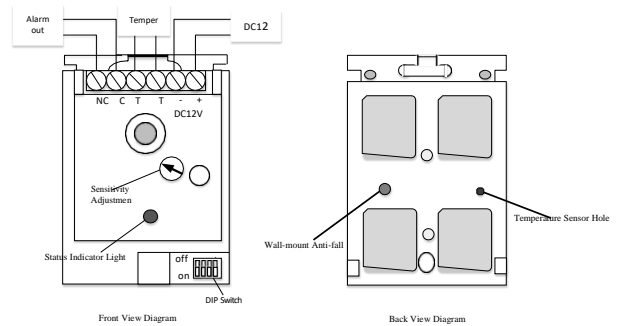

Figure 1
4.4.4 Temperature Alarm Test: When continuously applying heat to the temperature sensing hole (as shown in Figure 1) using a high-power heat gun or other heat-generating equipment, the detector will trigger an alarm. During a temperature rise alarm, the red light will flash continuously for 3 seconds.